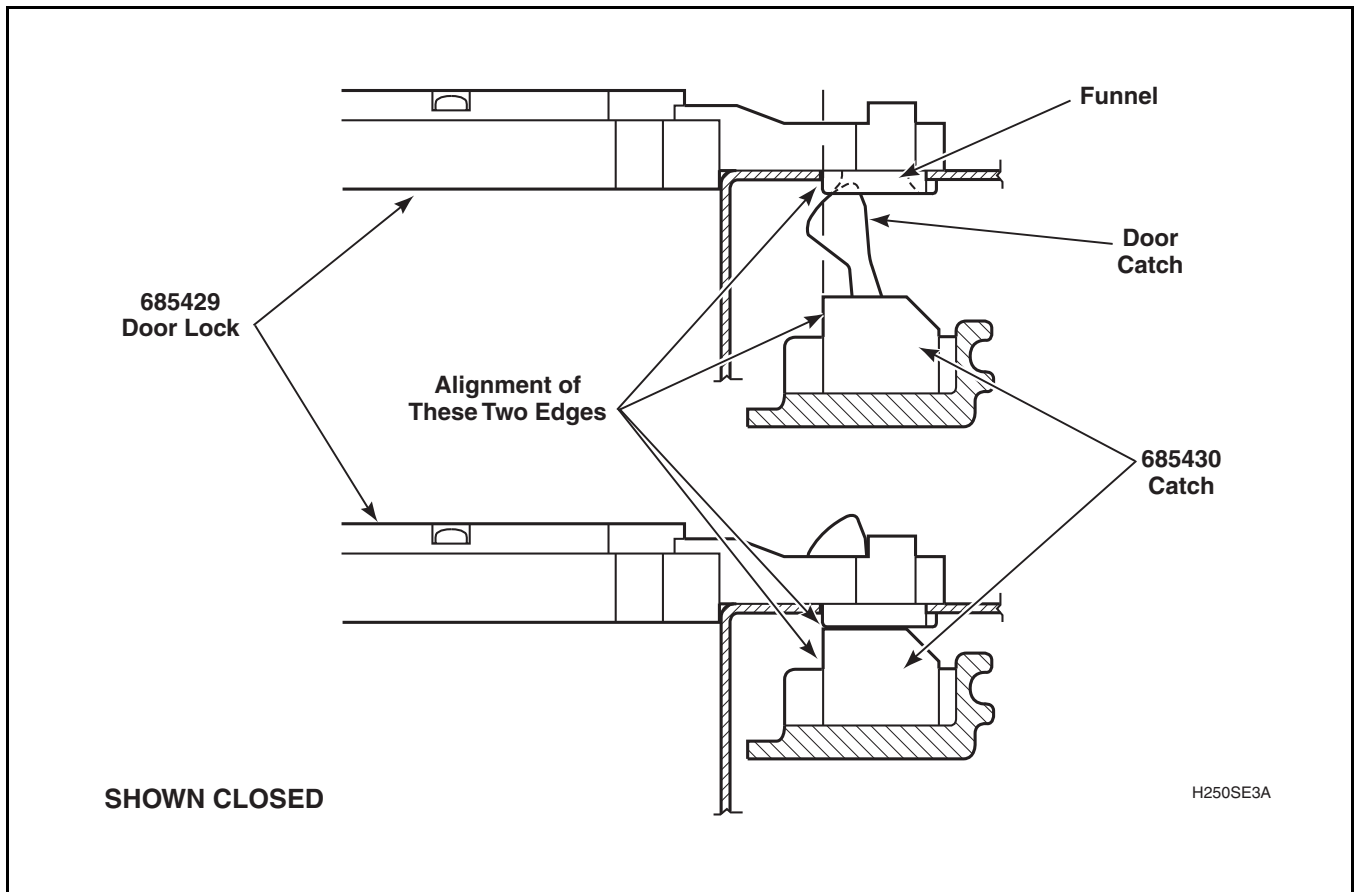

Figure 61
- d. Adjust door catch so the outside edge is aligned with the edge of the latch. Refer to *Figure 61*.
- e. Visually check that the door catch properly engages the funnel of the door latch/switch assembly. Refer to *Figure 61*.